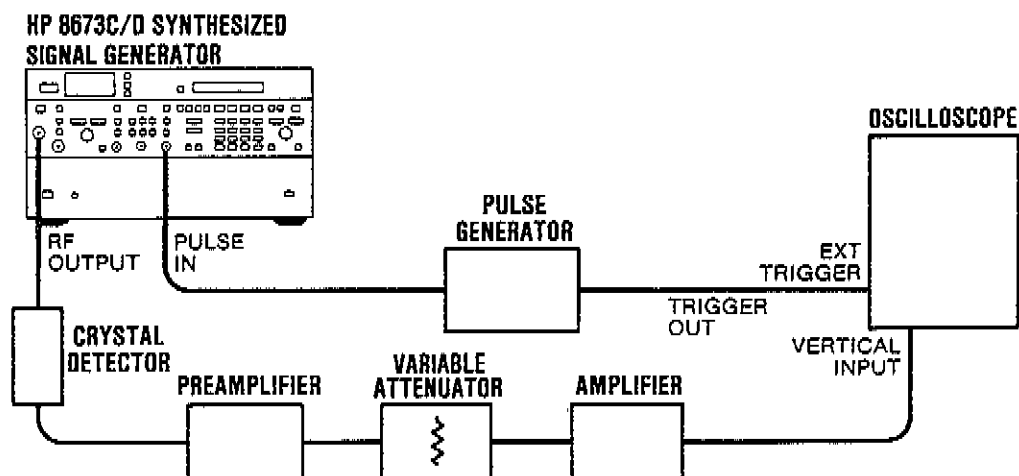
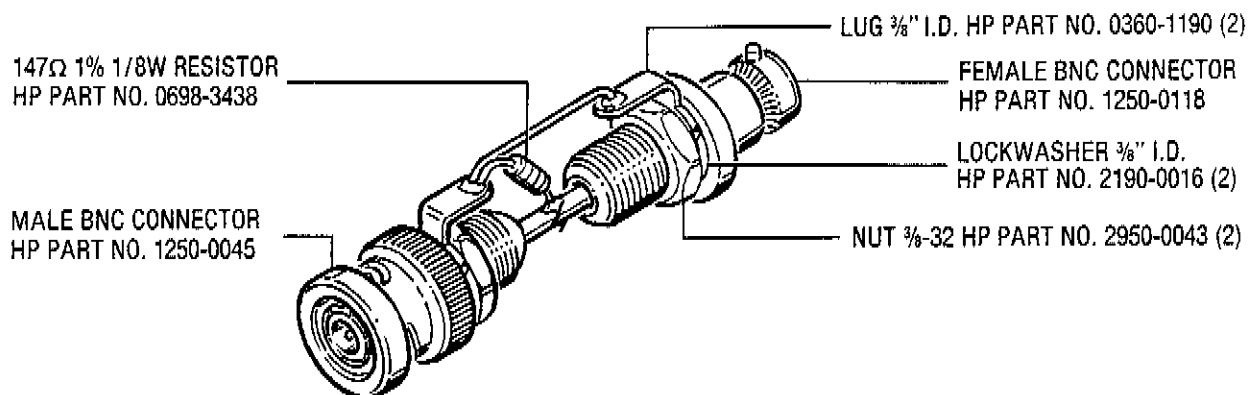

Figure 8-51. Pulse Modulation Initial Check Test Setup
Figure 8-52. Pulse Shunt Adapter
1. Connect the equipment as shown in Figure 8-51. The shunt adapter can easily be fabricated using 2 BNC connectors and a 147 ohm resistor as shown in Figure 8-52.
5. Bypass the preamp/amplifier as shown in Figure 8-51. Adjust the oscilloscope vertical position and sensitivity controls so that the pulse base line is one division from the bottom graticule line and approximately 5 divisions high in peak amplitude. (The Signal Generator output level may have to be increased to +8 dBm.)